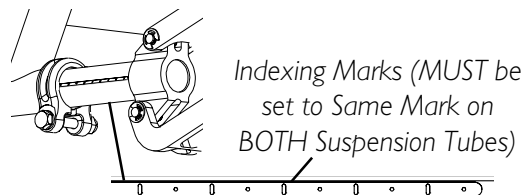

FIGURE 13 - ADJUSTING WHEELBASE LENGTH (ADJUSTING CENTER OF GRAVITY)
ADJUSTING WHEELBASE LENGTH (ADJUSTING CENTER OF GRAVITY) (FIGURE 13)
LENGTHENING THE WHEELBASE - NEVER position the camber system with the end of the indexing tape (approximately 4-inches) of suspension tube showing. The suspension tubes **WILL NOT** be securely tightened in the wheelchair frame resulting in possible injury to the user and/or damage to the wheelchair. Refer to **FIGURE 13**.
*NOTE: The performance of the wheelchair will be affected if the two (2) suspension tubes are not set to the same indexing mark. Refer to **FIGURE 13**.*